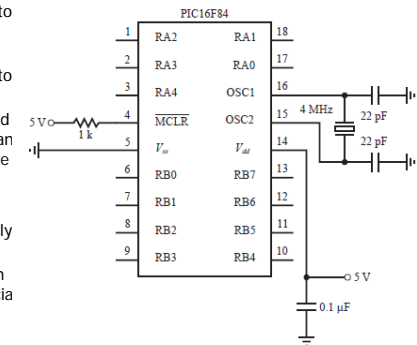

Figure 10.4 PIC16F84 pin-out and required external components.
- In Figure 10.4 , we show the use of a clock crystal to provide an accurate and stable clock frequency at relatively low cost.
- The clock frequency is set by connecting a 4-MHz crystal across the OSC1 and OSC2 pins with the 22 pF capacitors grounded as shown in Figure 10.4 .